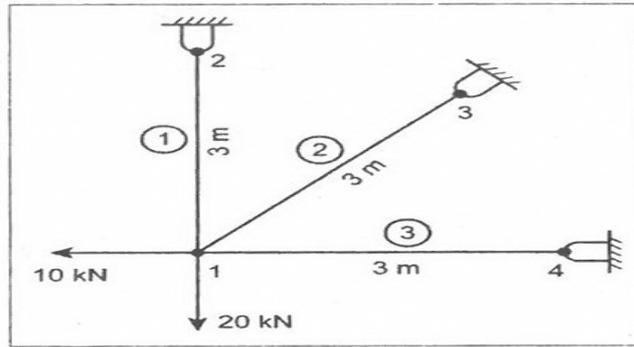

Fig.1.
23. For the plane truss shown in figure 1, determine the horizontal and vertical displacements of nodes. All the elements have $E = 201 \text{ GPa}$ and $A = 4 \times 10^{-4} \text{ m}^2$. CO2 [K₂]